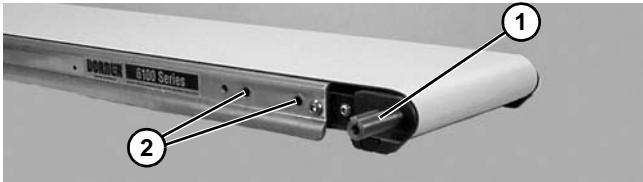

Figure 11
4. Locate drive output shaft (Figure 11, item 1) and remove two screws (Figure 11, item 2).